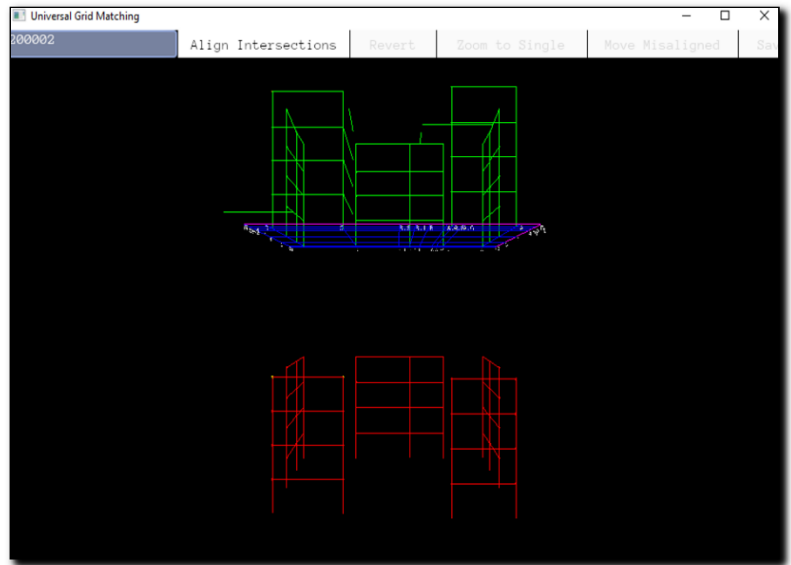

Figure 6: Grid Matching
3. Next, select the **Align Intersections** button, as shown in Figure 6.